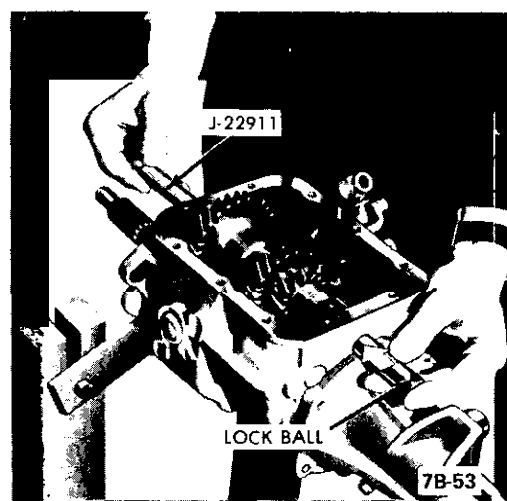

Figure 7B-53 Installing Countershaft
5. Insert gear unit countershaft into gear unit and drive shaft into transmission case while driving out Special Tool J-2291 1. Pay attention to lock ball. See Figure 7B-53.